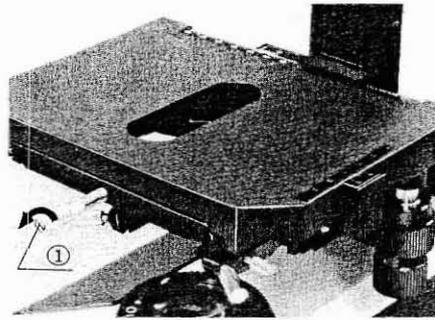

Fig. 1
③ Mounting the stage
- 1) Loosen the stage clamping screw ① by rotating counterclockwise. (Fig. 1)